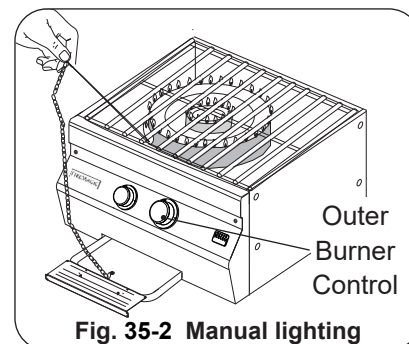

Fig. 35-2 Manual lighting
WARNING: **DO NOT** put hand directly above the burner when lighting but off to the side as shown (Fig. 35-2).
- 2a. Insert either a burning long-barrel butane lighter, a burning long-stem match, or a burning match held by a wire extension holder through the cooking grids to the desired burner to be lit (Fig. 35-2). **With the flame still next to the burner, depress the corresponding control knob (outer burner- right knob, inner burner- left knob), and while pressing turn it counterclockwise to the HI LIGHT position.** Remove the lighter or match when the burner lights, and release the control knob.
3. If the burner does not light within five (5) seconds of turning the control knob, **IMMEDIATELY** turn the burner control knob to the **OFF** position. **WAIT FIVE MINUTES** before repeating steps 2 and 3 of the **MANUAL LIGHTING INSTRUCTIONS**.